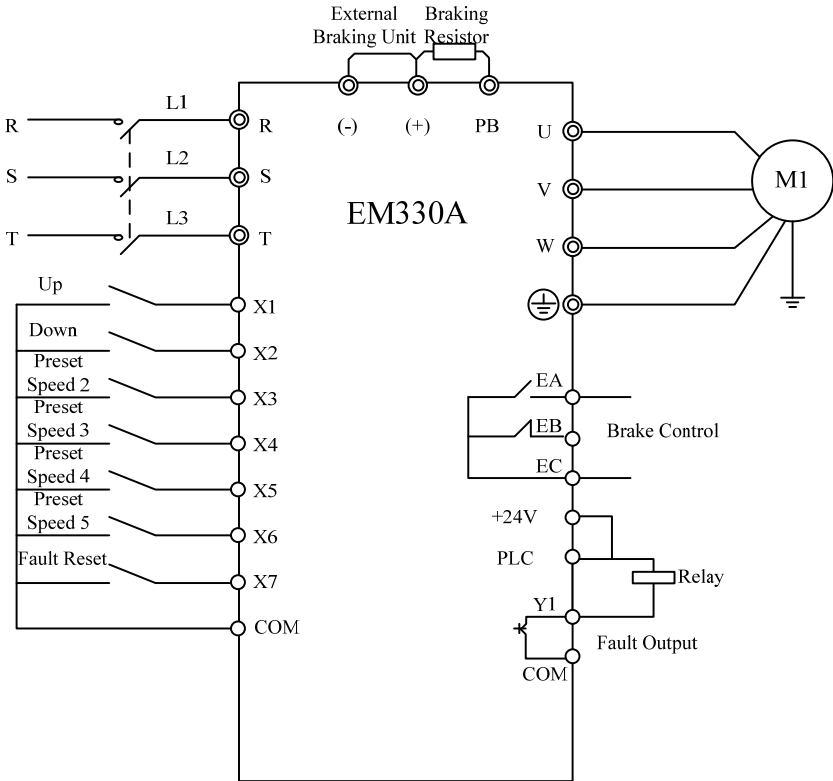

Figure 12-3 EM330A Wiring of Tower Crane Hoisting
2. When EM330A selects F4-28 as tower crane hoisting application macros, please configure terminals Xi, Y1 and R1 as per Figure 12-3.